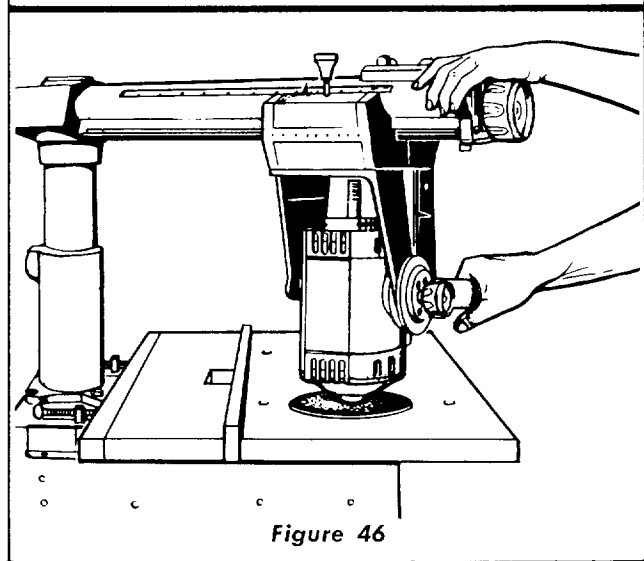

Figure 46
2. When sanding the table top or routing with the work stationary, the arm lock pin can be prevented from automatically indexing at 0° and 45° by loosening the arm latch knob to provide free movement of arm. (See figure 46.)
3. There is a possibility that during or after shipment, the wood front table; spacer board, or rear table might become slightly warped. Lay a straight edge across the surface of the table and check for gaps or high spots on the table. Any portions of the table which are not flat should be planed and sanded until flat. Sanding can be done by using one of the two key chucks referred to under "Routing" and a Craftsman moulded rubber 6-inch sanding disc. (Refer to figure 46.)